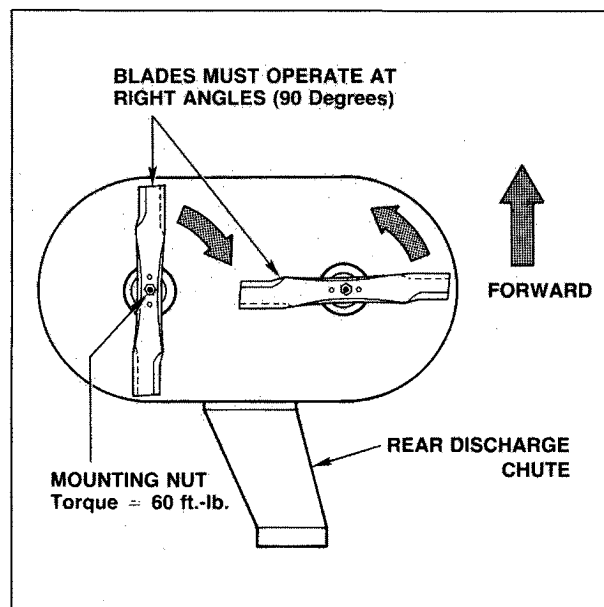

FIGURE 4-4 Blade Rotation for GHS Mower Deck
If the cutting blades strike a stationary object while mowing, stop mower immediately, disconnect spark plug wire, lift deck and inspect thoroughly for damage. Check that blade timing has not been disturbed (blades should be at 90 degrees to each other, See Figure 4-4). See Section 5, "Replacing Blade Overload Shear Bolts" if blades are out of time. Also check blade retaining nuts are torqued to 60 ft-lbs.
- Check RH and LH mower blades are installed **for correct rotation** – install blades so cutting edges move towards each other. See Figure 4-4.